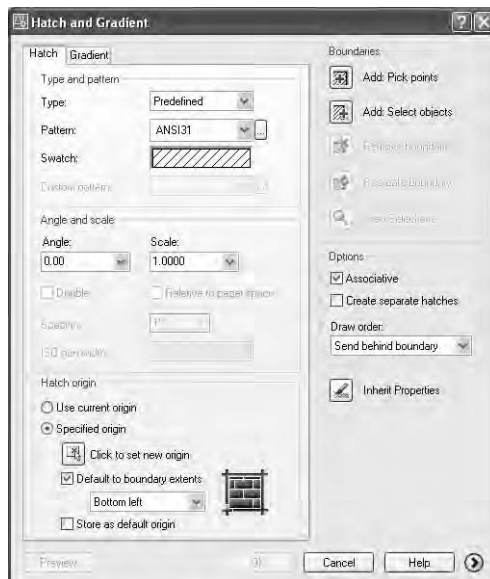

FIGURE 9.1 : The Hatch And Gradient dialog box
- Click the Hatch icon on the Draw toolbar to open the Hatch And Gradient dialog box (see Figure 9.1). Be sure the expansion arrow in the lower-right corner is pointing to the right. If it isn't, click it to collapse the dialog box to its normal size. You will use this dialog box to choose a pattern, set up the pattern's properties, and determine the method for specifying the boundary of the area to be hatched. The Hatch tab should be active. If it's not, click the tab. Predefined and ANSI31 should be displayed in the Type and Pattern drop-down lists, respectively. If not, open the lists and select those options.